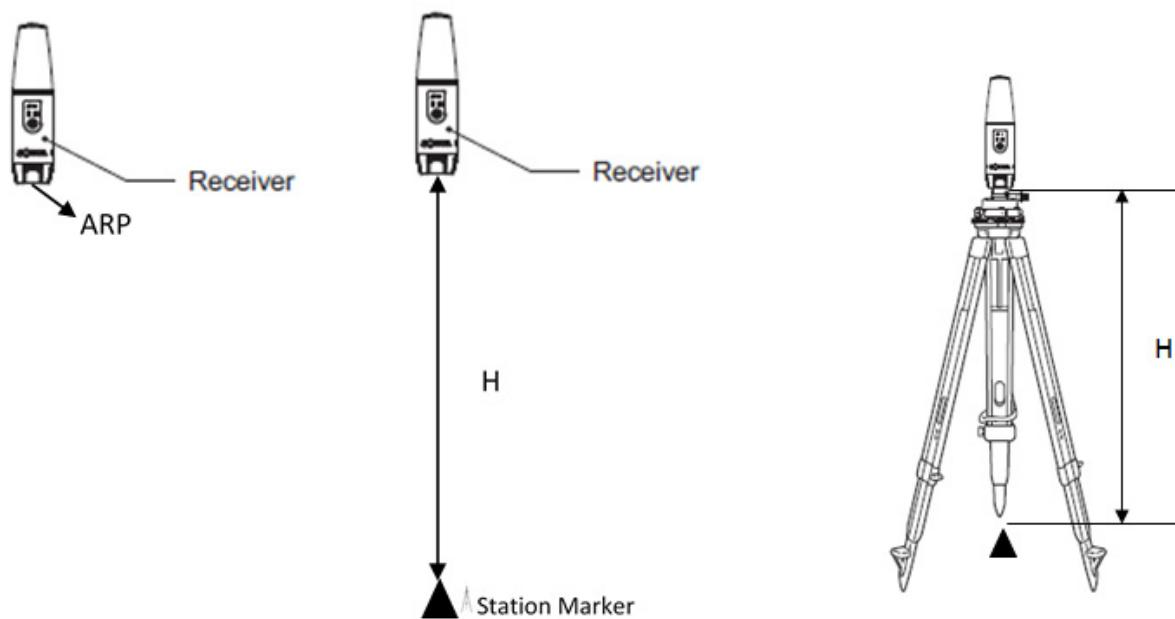

Figure 21: Obtaining Antenna Height
- measured height (H) of the bottom of the receiver above the station marker (refer figure 21)